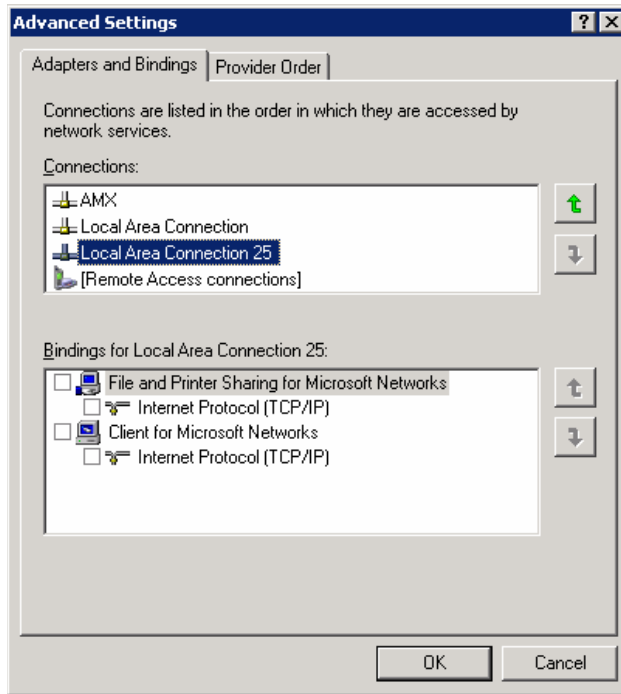

FIG. 88 Bindings for Local area list detail
- In the lower *Bindings for Local Area Connection* field, unselect ALL bindings by clicking on the checkboxes by each binding to remove the checks from each box (FIG. 88).